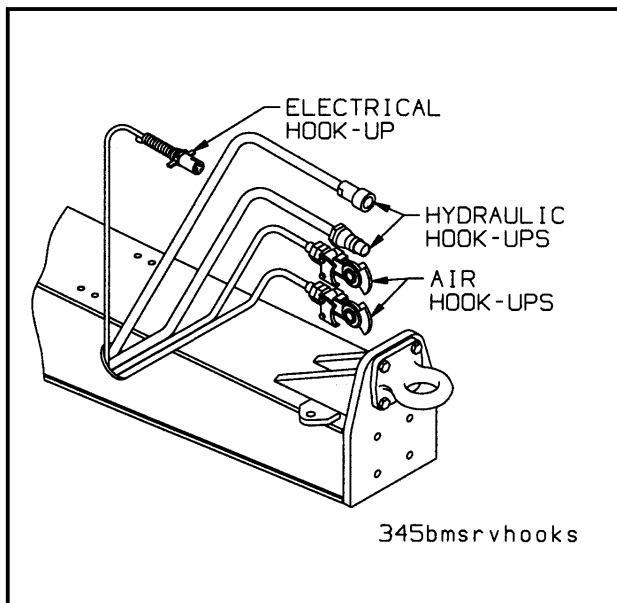

Figure 3-1 Service Hookups
3-2.6 Connect the service and emergency air hoses of the towing vehicle to their respective gladhand on the trailer. The towing vehicle's air hose couplings are attached and locked to the appropriate gladhands; **red emergency line** to the gladhand with the "EMERGENCY" tag, and the **blue service line** to the gladhand with the "SERVICE" tag (See Figure 3-1).
- 3-4.1 Connect the electrical receptacle on the front of the trailer to the towing vehicle (**See Figure 3-1**). Insure all lights function properly when energized by towing vehicle electrical action.